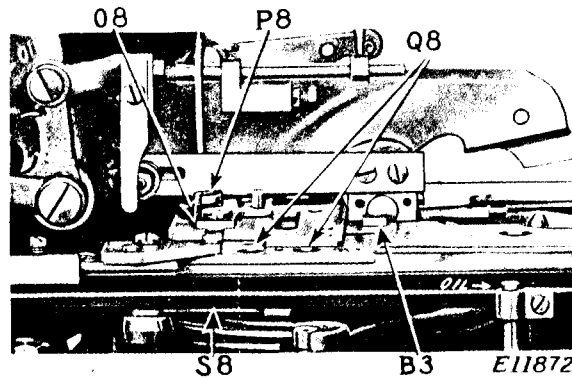
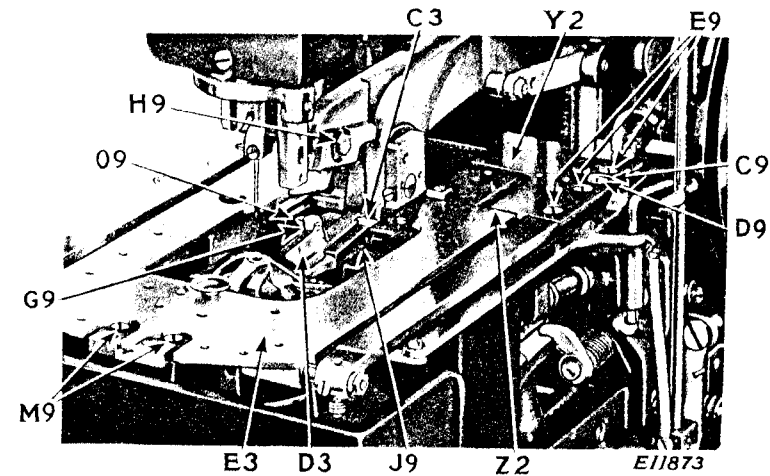

Fig. 35. Adjustment of Clamp Carrying Mechanism
Fig. 36. Adjustment of Clamp Carrying Mechanism
In case the knife is not cutting in the center of the buttonhole, it can be adjusted sidewise by means of the screw (J9, Fig. 36) at the right of the knife and a similar screw at the left of the knife, after loosening the clamping screw underneath the knife in the knife holder. To move the knife to the right, take out the knife as instructed, loosen the clamping screw underneath the knife in the knife holder, then loosen the screw (J9, Fig. 36) at the right of the knife and tighten the screw at the left of the knife. To move the knife to the left, loosen the screw at the left
To remove the knife (D3, Fig. 36) loosen the hexagon screw (G9, Fig. 36) only enough to loosen the eccentric lever (O9, Fig. 36) and insert the end of the screwdriver in the hole in the eccentric lever (O9, Fig. 36), then turn the lever to the front and lift out the knife. To replace the knife, slide the knife into position from the left so that the projection on the stop (C3, Figs. 5 and 36) will enter the notch on the right side of the knife. Then with the screwdriver, turn the eccentric lever (O9, Fig. 36) as far to the rear as it will go and tighten the hexagon screw (G9, Fig. 36).
**To Regulate the Pressure on the Cutting Knife.** The pressure on the cutting knife (D3, Fig. 36) is regulated by means of the screw in the wedge shaped device located at the rear end of the upper cutting lever. This screw is accessible through the opening in the upright part of the arm and is located on the left side of the upper cutting lever with its slotted end toward the front of the machine. To increase the pressure on the cutting knife, turn this screw over to the right. To decrease the pressure, turn this screw over to the left. The pressure on the cutting knife should be only heavy enough to ensure clean cut buttonholes. This is particularly important when using a steel cutting block, as too much pressure will ruin the knife.
To increase the amount of stretch at the bar end or front end of buttonhole, remove the work clamp plates as instructed on page 24 and loosen the two adjusting screws (M9, Fig. 36) and move the screws inwardly or toward each other. To decrease the amount of stretch, move the screws outwardly or away from each other. When the required amount of stretch of the buttonhole is obtained, tighten the two screws (M9).
The clamp carrier slides are adjusted for a snug free fit but should the occasion arise for their removal, it is essential that they be reassembled with great care. To disassemble, remove the work clamp plates and take out the four screws (X2, Fig. 5) which hold the spreader base plate retainer blocks (W2, Fig. 5) to the stay plate (Y2, Figs. 5 or 36) and the two screws which hold the spreader base plate (A3, Fig. 5) to the base plate (E3, Figs. 5 and 36). Also remove the left spreader plate (O8, Fig. 35), the spreader connection link (P8, Fig. 35) and the rear screw of the spreader operating fork lever connection (V2, Fig. 5). Slide the spreader base plate (A3) to the right side to remove from the machine and take out the two screws (Q8, Fig. 35) which hold the left clamp carrier slide to the feed lever block.
Insert a screwdriver between the clamp carrier feed lever link and underside of the bed of the machine, at S8 in Fig. 35, and press the feed lever link block downwardly out of engagement with the left slide. This will allow the clamp carrying mechanism to slide freely in the bed of the machine, in order to determine the degree of tightness between the clamp carrier slides and the bed of the machine.
ward end of each slide is pinned to the slide rod, this determines the proper alignment of the forward end of the slides. The work clamp carrier slide stay plate (Y2) should be assembled so there is an equal amount of clearance between it and the rear ends of the clamp carrier base plate (E3, Fig. 36) at each of its rear ends as at Z2 in Figs. 5 or 36, as this determines the squareness of the stay plate (Y2) at the rear end.
(E9, Fig. 36) which attach the clamp carrier slide stay plate to the right hand clamp carrier slide and also slightly loosen the stay plate lock washer screw (D9, Fig. 36) and tap with a screwdriver the eccentric lock washer (C9, Fig. 36) to the rear until the slides are still free without any looseness, and there is an equal clearance, as represented at Z2 in Fig. 36, on each side of the clamp carrier base plate, then tighten the lock washer screw (D9, Fig. 36) as well as the three clamp carrier slide screws (E9, Fig. 36). **The utmost care must be taken not to turn the eccentric lock washer (C9) so as to cause the slide to bind, as dragging will tend to distort the shape of the eye of the buttonhole and cause unnecessary wear on the feed cam and slides.** The eccentric lock washer (C9) should be just tight enough to permit the work clamp carrier base plate and slides to slide freely without side play. The correct adjustment can be ascertained by removing
the pattern wheel and dropping the side throw lever stud into the vertical slot (N5, Fig. 9), moving the work clamp carrier base plate (E3, Fig. 36) sidewise and by moving the work clamp carrier base plate and slides back and forth, after which securely tighten the three screws (E9, Fig. 36) attaching the clamp carrier slide stay plate to the right hand clamp carrier slide. Then replace the two screws (Q8, Fig. 35) which hold the left clamp carrier slide to the feed lever block, then move the spreader base plate (A3) into position and assemble the two retainer blocks (W2, Fig. 5) and lightly attach their four screws (X2, Fig. 5) and the two spreader base plate screws. Then securely fasten the four retainer block screws and the two spreader base plate screws, also assemble the left spreader plate (O8, Fig. 35), the spreader connection link (P8, Fig. 35) and the rear screw of the spreader operating fork lever connection (V2, Fig. 5).